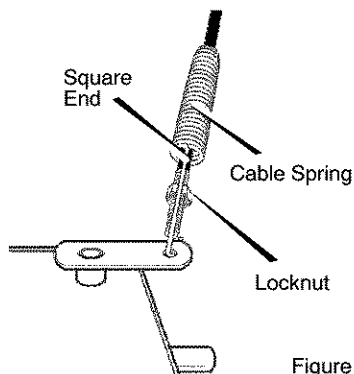

Figure 30
3. Push cable through spring to expose the threaded portion of the cable (see Figure 30).